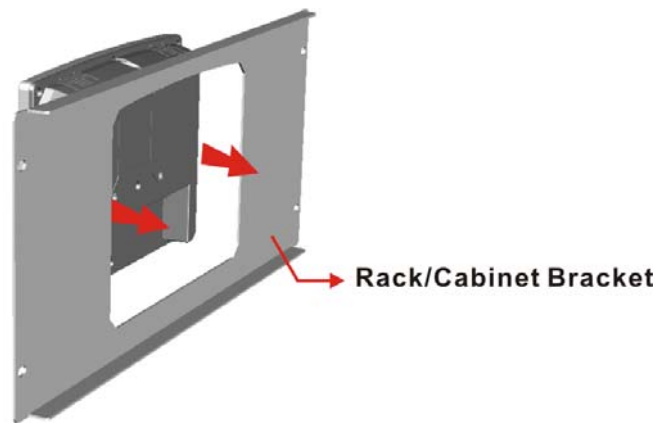

Figure 3-14: The Rack/Cabinet Bracket
- Step 1:** Slide the rear of the PPC-F06B-BT flat panel PC through the rack/cabinet bracket until the aluminum frame is flush against the front of the bracket (Figure 3-14).